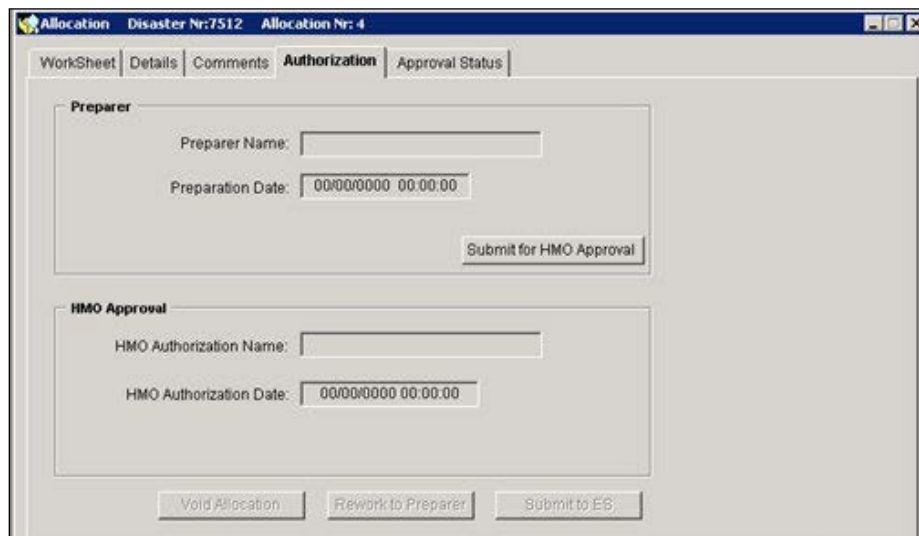

Figure 10-18: Mitigation > Funding > Allocations > Authorization Tab
25. Click the **Authorization** tab (Figure 10-18).